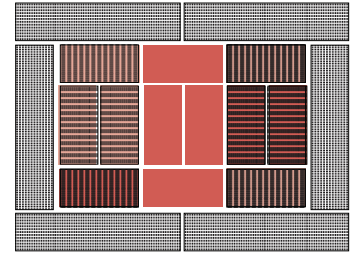

Figure 2B
Figure 2B makes use of (6) 12" x 48" and (12) 12" x 24" heaters.